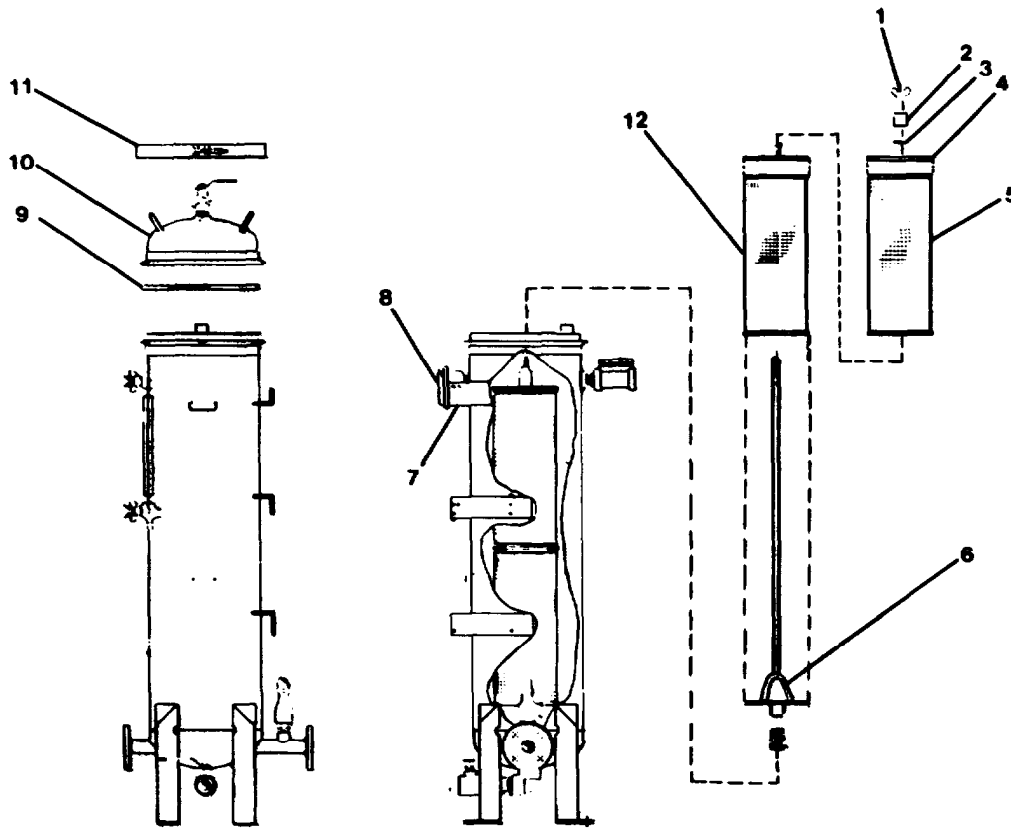

FIGURE 2-23. Filter Removal (2nd Stage).
- (1) loosen and remove clamp (11, FIGURE 2-23) securing cover (10) to second stage vessel.
- (2) Remove cover (10) and preformed packing (9).
- (3) loosen and remove self-locking wing nut (1) from threaded filter support (6).
- (4) Remove packing retainer (2), preformed packing (3) and hold down plate (4).
- (5) Remove fluid filter elements (5) and (12).
- (6) Unscrew and remove liquid transmitter cover (8).
- (7) Tag and disconnect wires attached to transmitter terminals.
- (8) Unscrew liquid transmitter (7).
- a. Repair at the unit level consists of cleaning the inside of the second stage vessel and replacing the liquid transmitter (7), packing (3), retainer (2), preformed packing (9) and fluid filter elements (5 and 12).